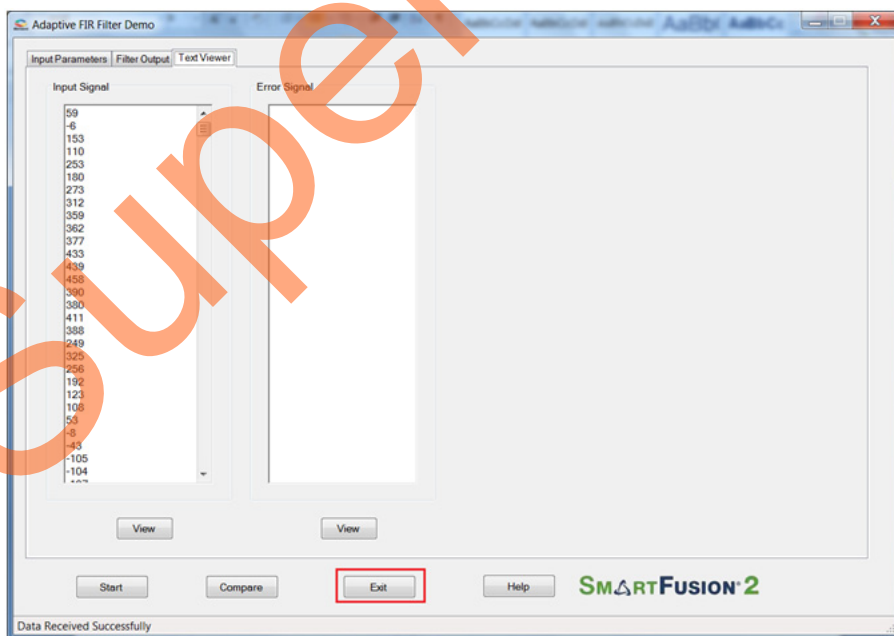

Figure 31 • Exit Demo
13. Click **Exit** to stop the demo, refer to Figure 31.